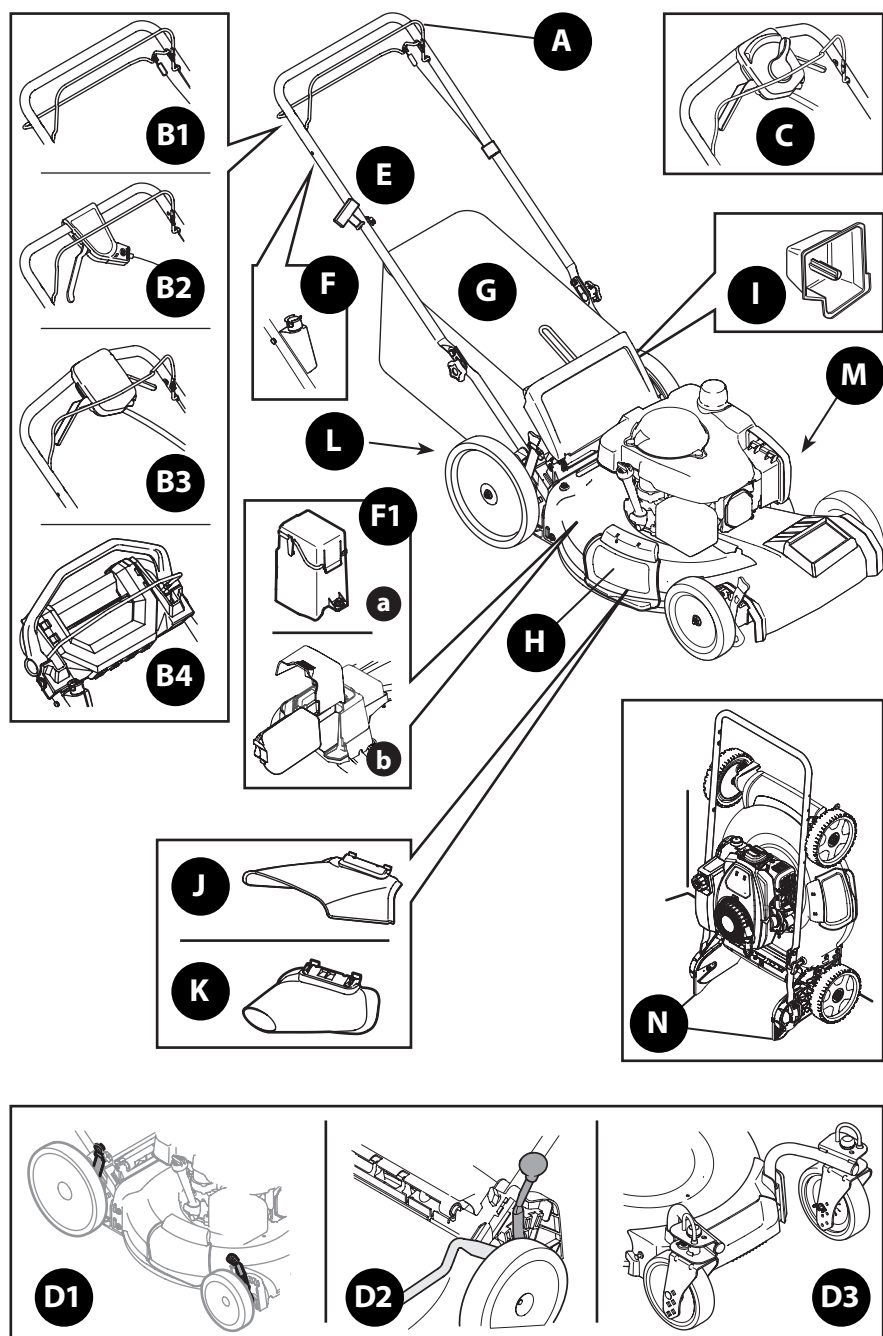

Figure 33
- Mowers equipped with electric starters are also equipped with a battery in an enclosed battery box (a) or a removable battery pack (b) (Figure 33 on page 15).